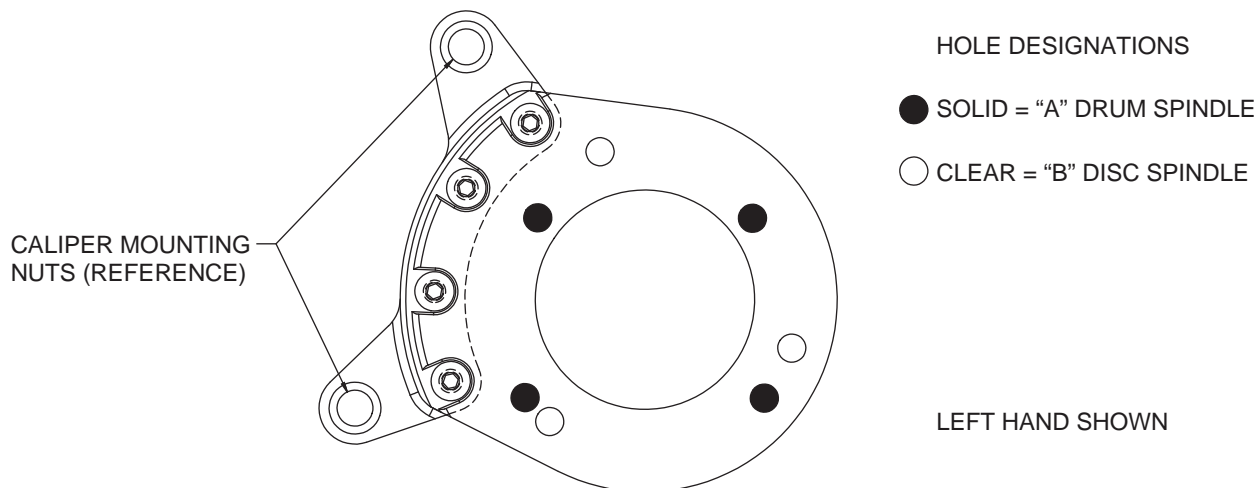
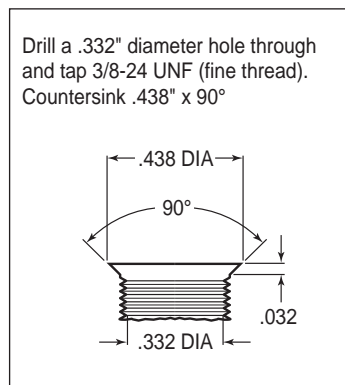

Figure 1. Wilwood Caliper Mounting Bracket
Figure 3. Drill and Tap Detail
This kit has been designed for use with both the disc brake or the drum brake configuration of vehicle. The only difference is in how the Wilwood caliper mounting bracket is installed. The same bracket is used for both configurations; the disc brake version utilizes three mounting holes while the drum brake application uses four mounting holes (see Figure 1). For your convenience we have supplied bolt kits for both applications (see parts list and Figure 2 as necessary). Use the bolt kit that is applicable to your vehicle and disregard the other one.
**NOTE:** This modification should be performed by a qualified machinist and completed before assembly of the Wilwood disc brake kit begins. Using the caliper mounting bracket as a template (refer to Figure 1 as necessary), locate and verify the three original holes on the spindle that need to be modified. Drill a .332" diameter hole through all three holes, then tap 3/8-24 UNF (fine thread). Countersink the holes to .438" diameter x 90°, as shown in Figure 3.
•**NOTE:** This kit uses the same mounting bracket (1) for both the drum and disc brake spindles. The drum version, Photo 1, uses four mounting bolts (designated "A"), while the disc version, Photo 2, uses three (designated "B"). Refer to Figures 1 and 2 for the basic installation position of the bracket and the "A" and "B" reference designations (not physically marked on the brackets).
- Remove the two pad retaining pins from the caliper (18) by carefully popping out the pin retaining clips and sliding out the pins. Insert the brake pads (22) into the caliper from the bottom, Figure 1 and Photo 11, with the friction material facing the rotor. Secure the brake pads in place with the pad retaining pins and clips, Photo 12. Reinstall the caliper onto the caliper mounting bracket. Apply red *Loctite*® 271 to bolt threads (20), and torque to 40 ft-lb.